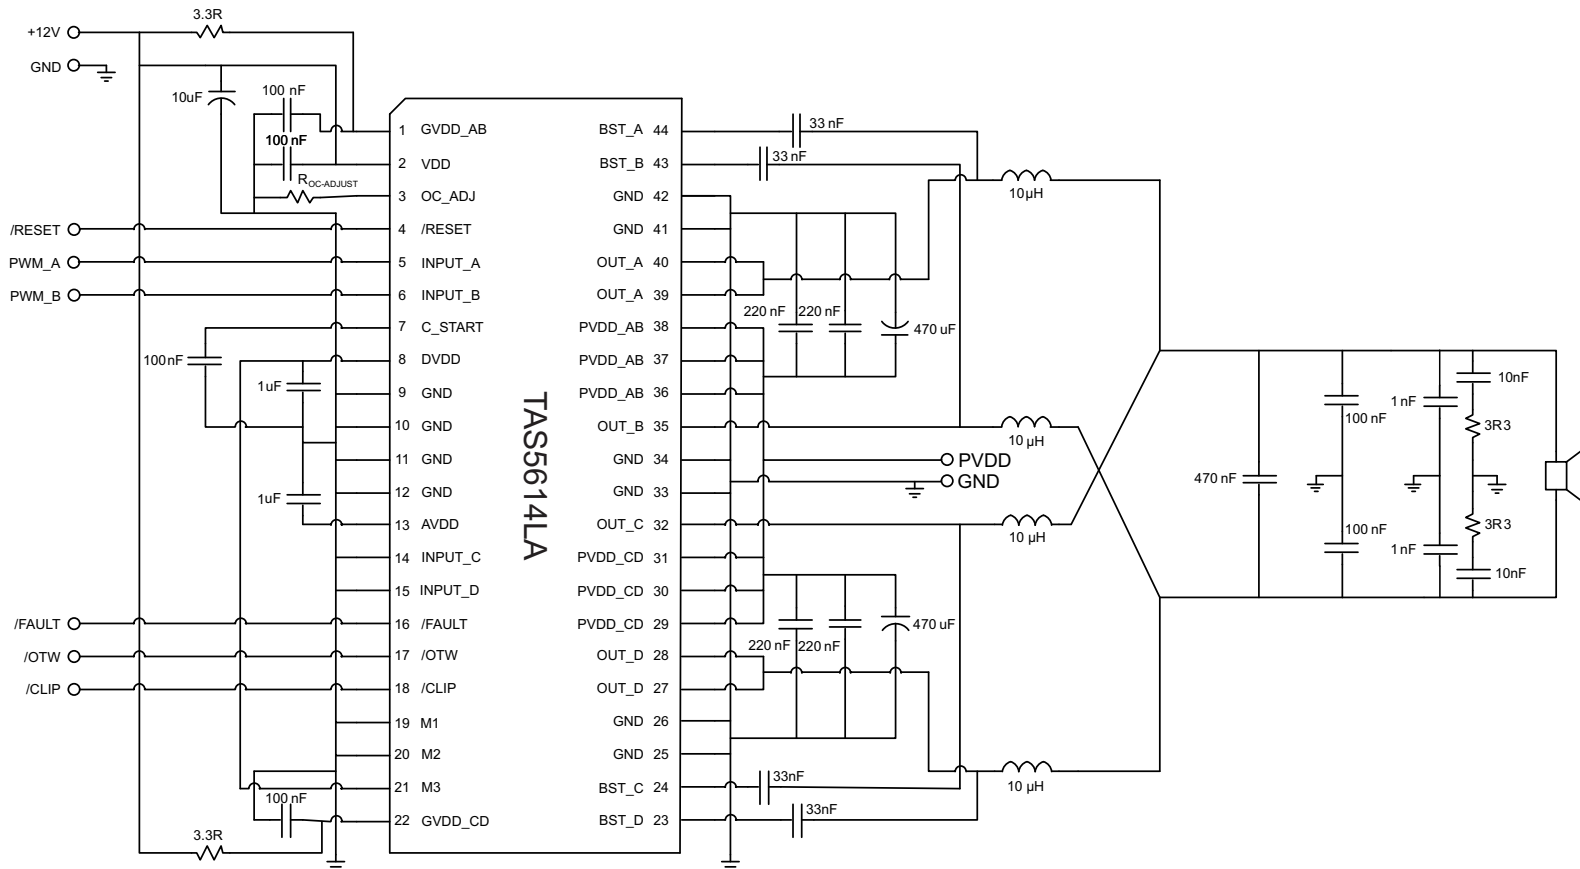

图 22. Typical Differential (2N) PBTL Application With AD Modulation Filter
See 图 22 for application schematic. In this application, one differential PWM input is used with AD modulation from the PWM modulator such as the TAS5558. AD modulation scheme is defined as PWM(+) is opposite polarity from PWM(-). The output PBTl configuration is often used to drive lower impedance load such as a subwoofer.
- Pins 27, 28, 32, 35, 39, 40 - Output pins from half-bridges A, B, C, and D. Connect appropriate bootstrap capacitors and differential LC filter as shown in 图 22.
- Pins 29, 30, 31, 36, 37, 38 - Power supply pins to half-bridges A, B, C, and D. A and B form a full-bridge and C and D form another full-bridge. A 470-μF bulk cap is recommended for each full-bridge power pins. Two 0.22-μF decoupling capacitors are placed on each full-bridge power pins. See 图 22 for details.